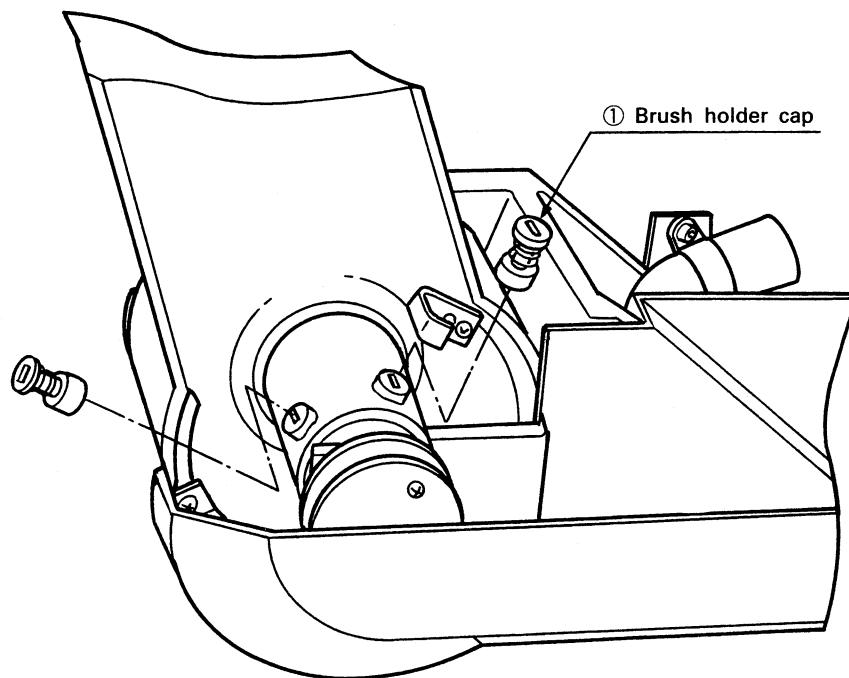

Fig. 4.3.5 Checking and Changing the Shoulder Drive Motor Brushes
- (1) Fig. 4.3.5 outlines the inspection and replacement procedures of the shoulder drive motor brushes.
- (2) Remove the upper shoulder cover and upper arm cover in accordance with Section 3.2, Removal of Covers.
- (3) Check the brushes in accordance with steps (3) to (6), A. Inspection of Section 3.3.1, Inspection and replacement of the waist drive motor brushes.